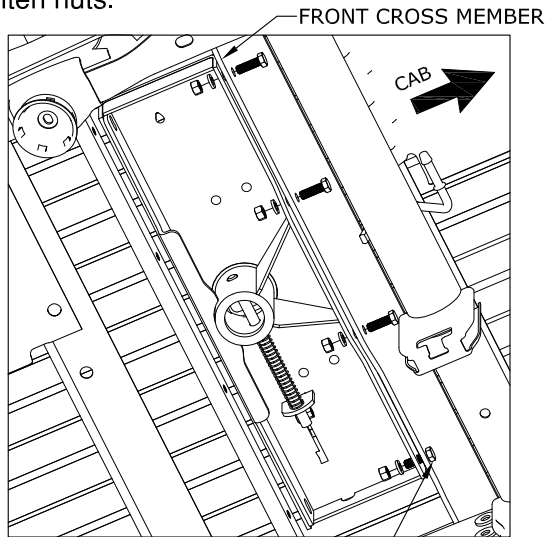

FIGURE B10: View under the center section looking from in front of the axle on the passenger side.
5. **Attach the front cross member to the center.** Slide the front cross member back against the center section so that the bolt installed previously in the front cross member goes into the center section hole directly across from it. Line up the rest of the holes and attach the two members with  $\frac{1}{2}$  X  $1\frac{1}{2}$ " long bolts, lock washers, and nuts as shown in figure B10. Hand tighten nuts.